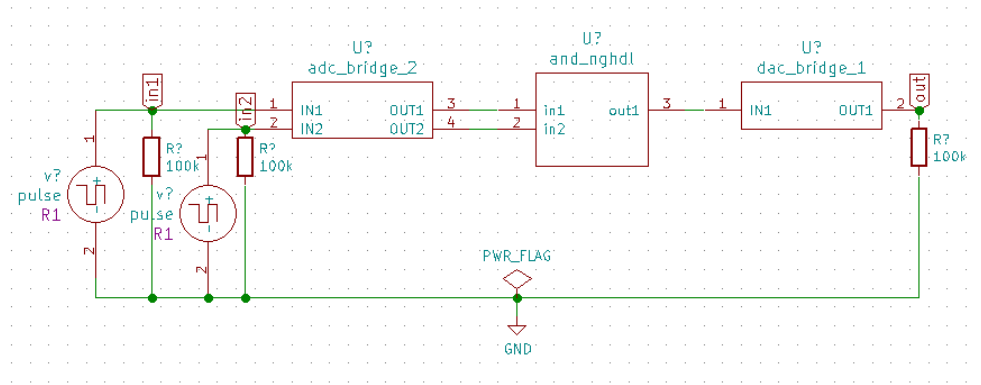

Figure 10.10: Example of an AND gate characteristics circuit
4. Now create the schematic as shown in Fig. 10.10, annotate, perform ERC, create the netlist and save the schematic by following the steps given in Chapter 5.